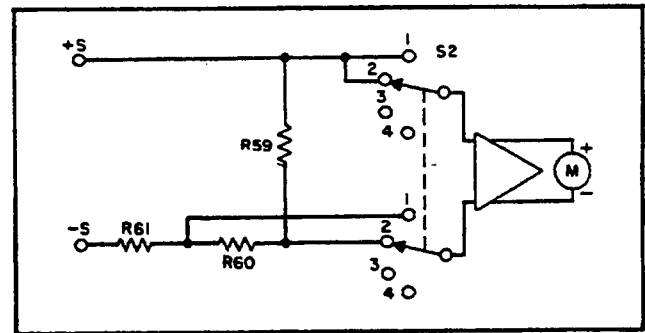

Figure 4-5. Voltmeter Connections, Simplified Schematic
4-50 Figures 4-5 and 4-6 show the meter connections when S2 is in the higher voltage and current positions, respectively. For the sake of simplicity, some of the actual circuit components are not shown on these drawings. With METER switch S2 in the higher voltage range, position (2), the voltage drop across R59 is the input to the meter amplifier and